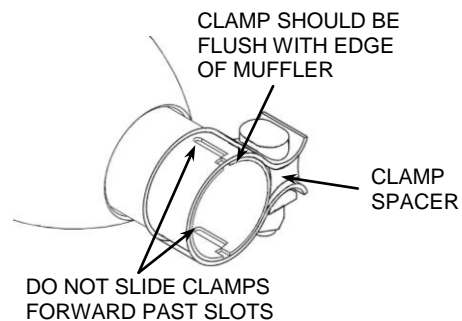

FIGURE 2
9. Check all clearances and alignments then tighten the clamps. (NOTE: The muffler clamps should be flush with the end of the muffler when tightened. See **Figure 2**. If the muffler clamps are slid forward past the slots on the slip collar the clamp will not tighten properly. Also, make sure the clamp spacer is not over the slots. The slots need to be covered by the clamp band so that it seals the slots properly. Rotate the clamp if necessary.)